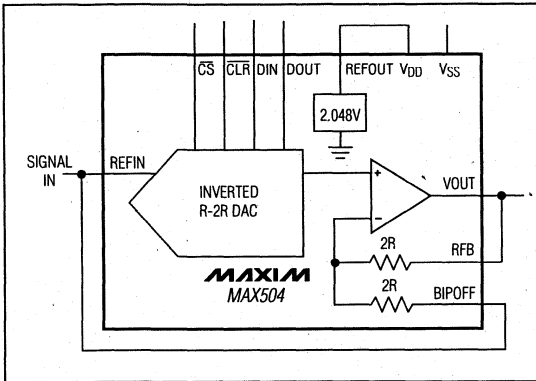

Figure 9. MAX504 Connected as Four-Quadrant Multiplier. The unused REFOUT is connected to V_{DD} .
The MAX504 can be used as a four-quadrant multiplier by connecting BIPOFF to REF and RFB to VOUT, and using (1) an offset binary digital code, (2) bipolar power supplies, and (3) a bipolar analog input at REF within the range $V_{SS} + 2V$ to $V_{DD} - 2V$, as shown in Figure 9.